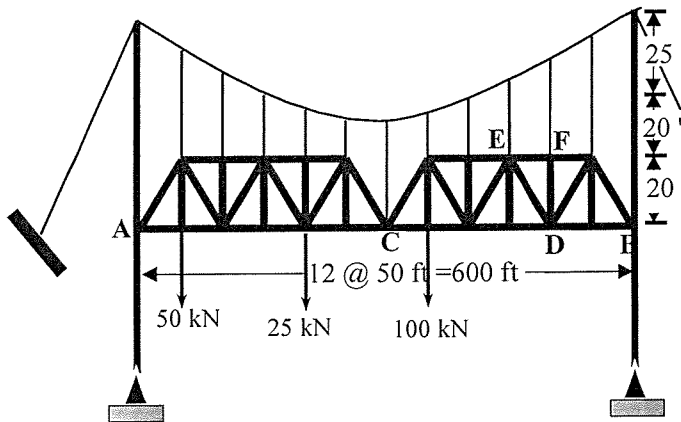

Fig.B3
7. For the suspension bridge with parabolic cable and two stiffening trusses shown in **Fig.B3**, determine the maximum and minimum tension of the cable. The trusses are pin connected at C, supported by a pin at A and roller at B. Determine the forces of the members DE and DF. [16]